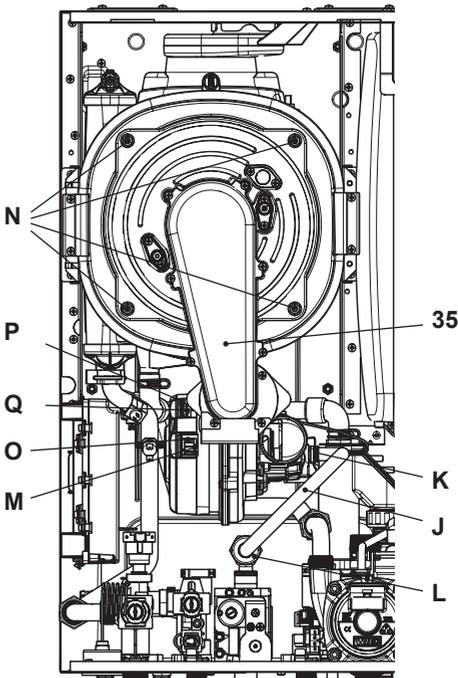

Fig. 9.9
Removing the fan burner unit 35 in Fig. 9.9.
- Insert a flat screwdriver in the connector recess M and lever towards the bottom, disconnect the connector at the same time O by pulling towards the front O (Fig. 9.9).
- Disconnect the fan connector P by pressing the plastic hook Q positioned at the bottom part of the connector (Fig. 9.9).
- Unscrew screws N and remove the fan burner unit 35 (Fig. 9.9)
- Unscrew the N screw nuts and remove the burner group fan 35 (Fig. 9.9)